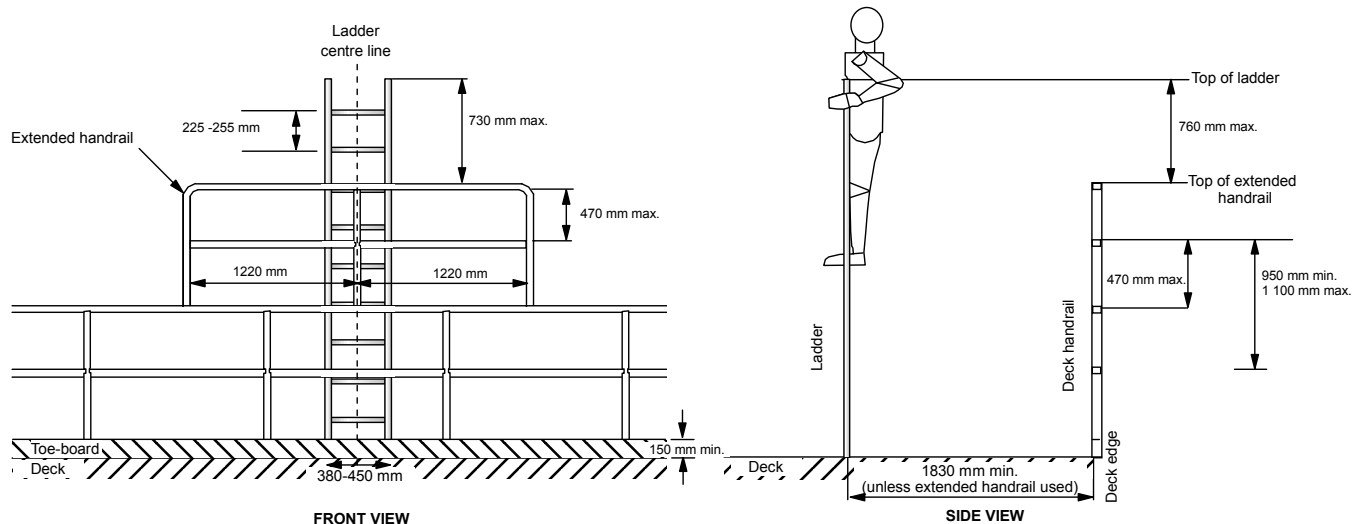

Figure 1 – Ladder and extended handrail to lower deck (without safety cage)
2. If this is unavoidable, install additional safety features – extended handrails, a safety cage, or both (see Figures 1 and 2). Fit a safety cage, or if not a fall-arrest system, whenever a user could fall 2 m or more or come into contact with dangerous equipment
3. If the ladder *does not* have a safety cage, extend the handrail in height to within 760 mm of the top of the ladder (see Figure 1)